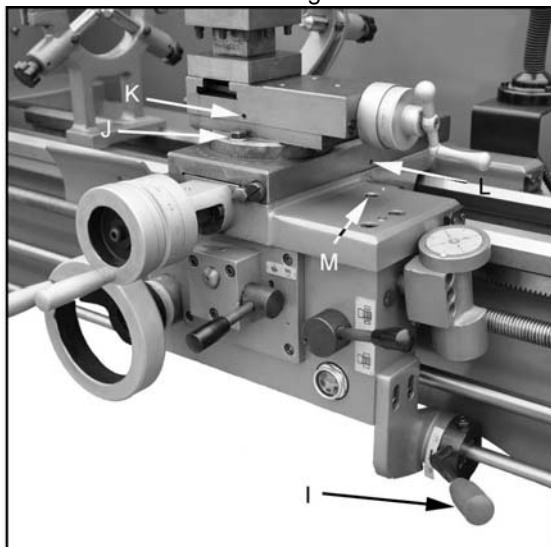

Figure 13
9. **Forward/Reverse Lever** (I, Fig. 13) - Pull lever up for clockwise spindle rotation (reverse). Push lever down for counter-clockwise spindle rotation (forward). Neutral
10. **Compound Rest Lock** (J, Fig. 13) - Turn hex nut clockwise to lock and counter-clockwise to unlock.
11. **Compound Slide Lock** (K, Fig. 13) - Turn set screw clockwise to tighten and counter-clockwise to loosen.
12. **Cross Slide Lock** (L, Fig. 13) - Turn set screw clockwise, and tighten to lock. Turn counter-clockwise and loosen to unlock. **Caution:** Cross slide lock screw must be unlocked before engaging automatic feeds or damage to the lathe may occur.
13. **Carriage Lock** (M, Fig. 13) - Turn hex socket cap screw clockwise and tighten to lock. Turn counterclockwise and loosen to unlock. **Caution:** Carriage lock screw must be unlocked before engaging automatic feeds or damage to lathe may occur.